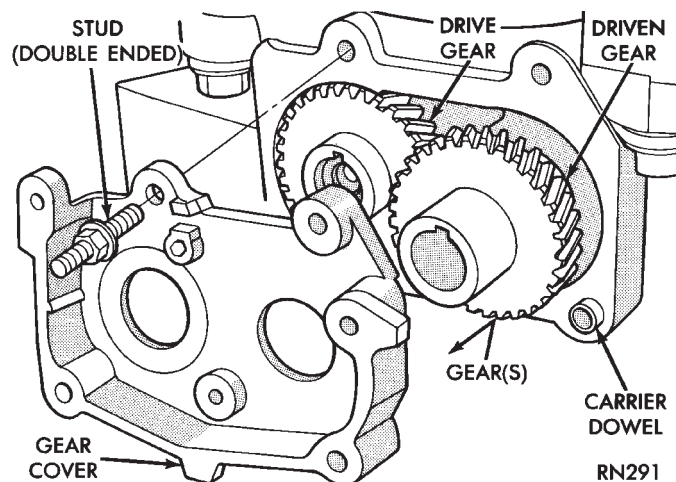

Fig. 18 Gear Cover and Gears
(3) Remove gear cover retaining stud (double ended to also retain chain guide). Remove cover and balance shaft gears (Fig. 18).